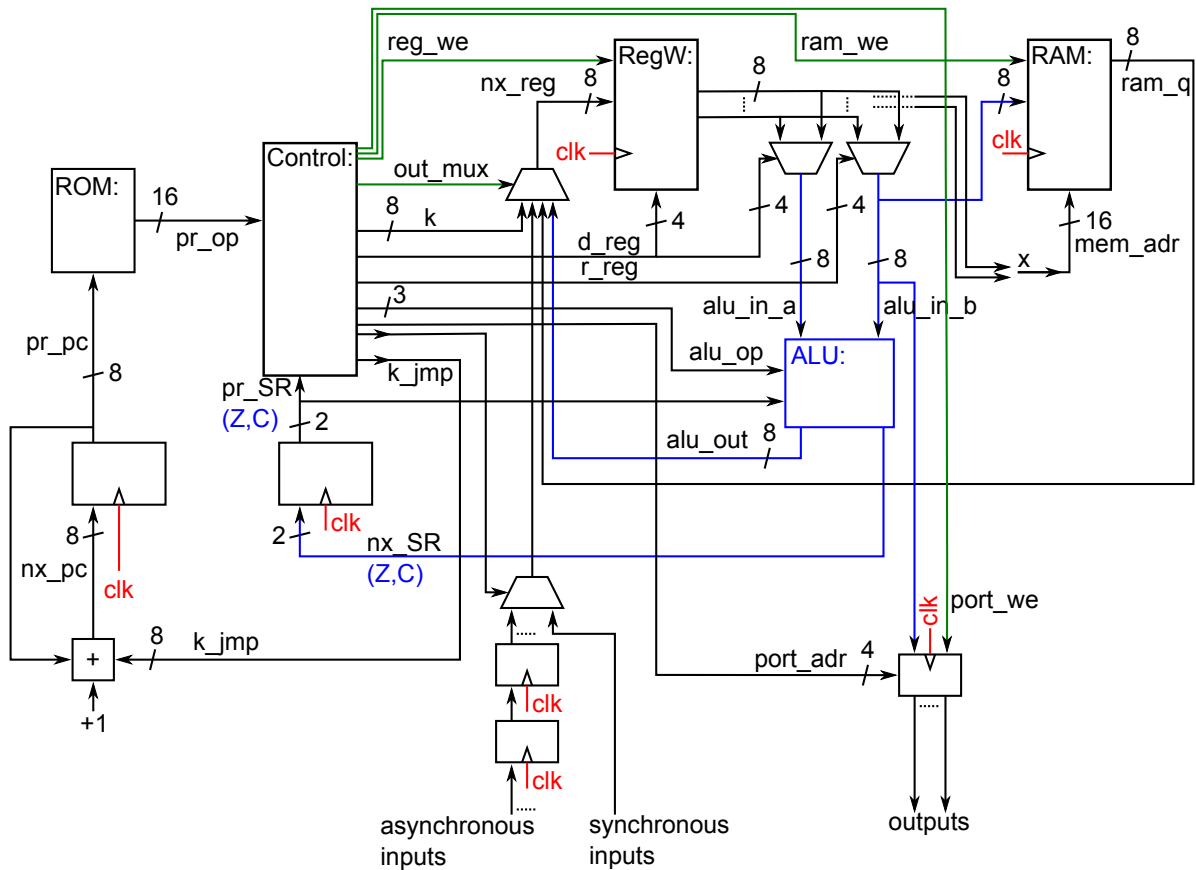

Figure 2: Mini AVR block diagram.
- Considering the block diagram of *Figure 2*, highlight the signals and blocks that will be used by this instruction and add, if necessary, new signals and blocks.
The Mini AVR architecture of *Figure 2* has in its ROM the following code:
1This general reset is not shown in *Figure 2*.
2See *Figure 2*.